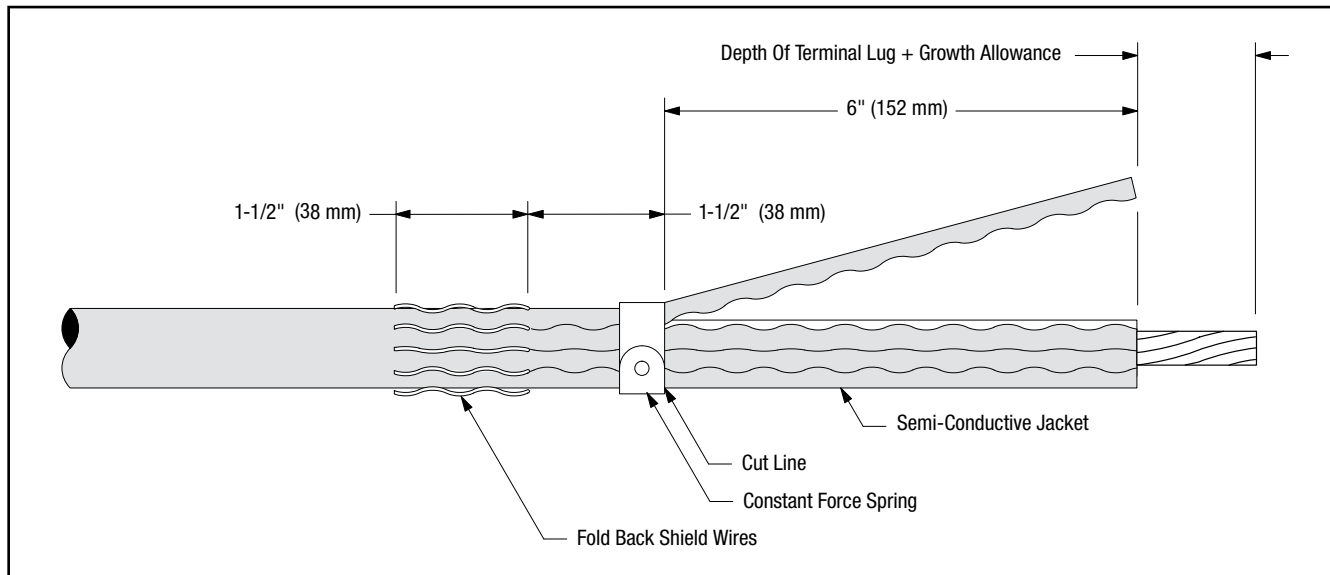

Figure 18
12.5 Remove semi-conductive jacket to dimension shown in Figure 18.
**NOTE: To ease jacket removal, install constant force spring as shown in Figure 18 and ring-cut 80% through jacket. Remove jacket sections by pulling against constant force spring. DO NOT BELL SEMI-CON JACKET. Remove constant force spring.**